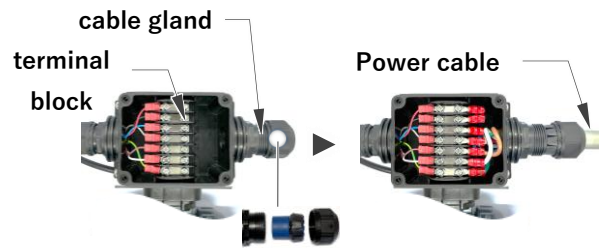

Figure 6.2-3
- 3) Insert the wiring cable into the terminal box through the cable gland. Connect the crimping terminals of the wiring cable to the terminal block inside the terminal box with a Phillips screwdriver (**Figure 6.2-3**).